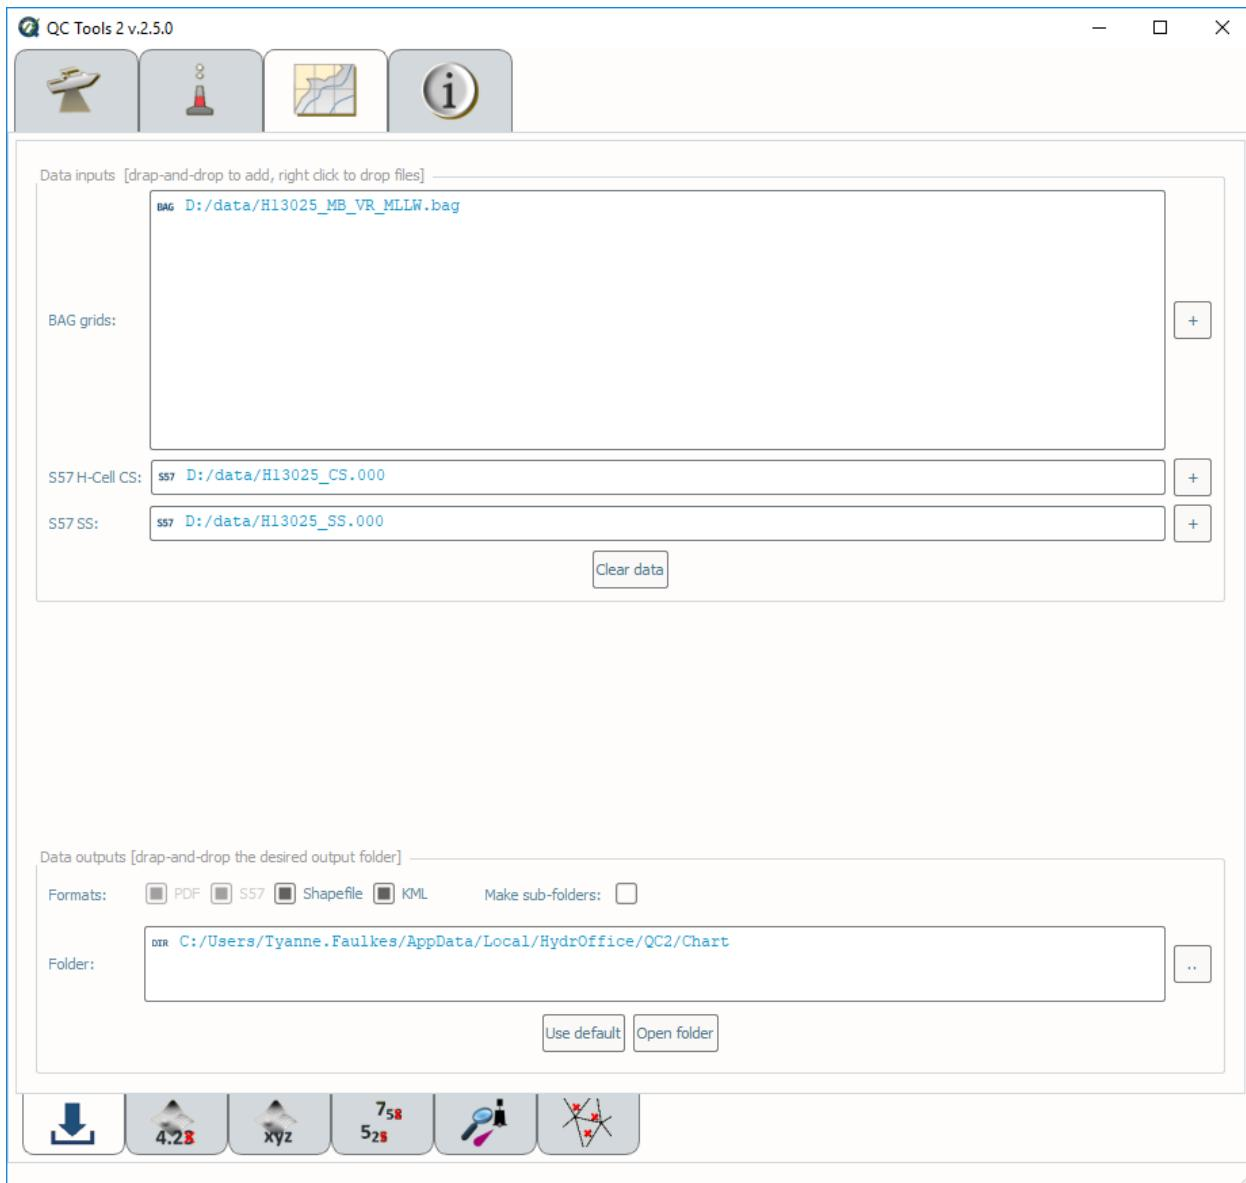

Fig. 2.61: Chart review tab.
- With the addition of a grid, feature file, and survey sounding selections, the **Grid truncate**, **Grid xyz**, **S57 truncate**, **Triangle Rule**, and/or **Scan Features** tabs on the bottom of the interface will become available (Fig. 2.61).